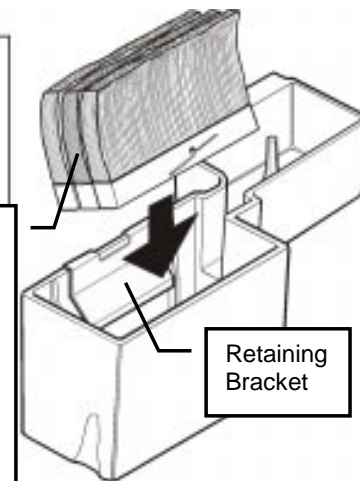

Figure 8 - Inserting the Brush into the Water Tank
1. Insert the brush assembly in the water tank. The brush assembly must be tilted toward the dispenser so that the cotter pin will clear the retaining bracket as it is pressed into place. See Figure 8. Then rotate the brush forward so that it seats flatly on the bottom of the water tank. The edge of the base of the brush should be under the retaining bracket.